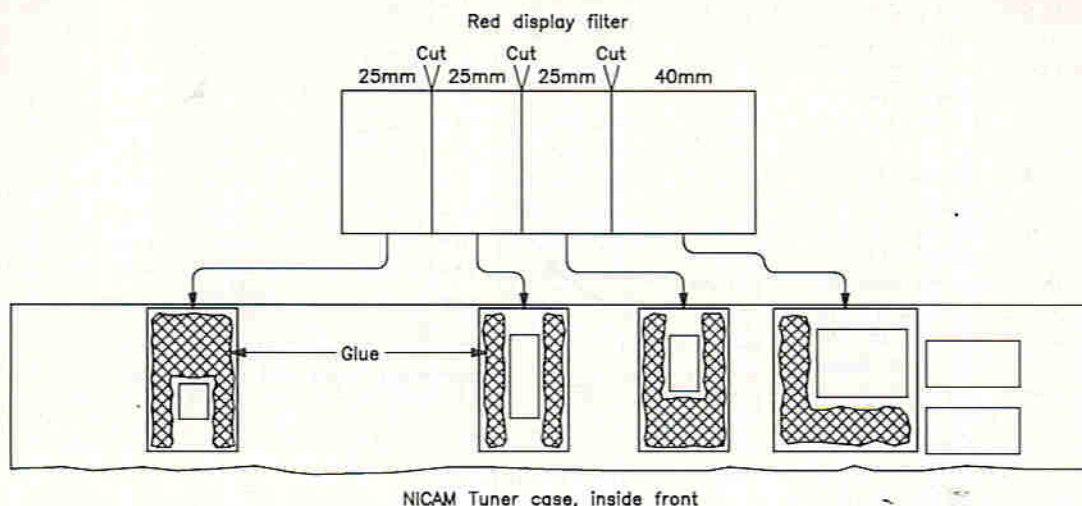

Figure 12. Fitting the Red Display Filter.
- 2) Follow the instructions given in Figure 12, and cut the red display filter into four pieces.
- 3) With a good quality glue (impact adhesive) attach them to the inside front of the case at the positions shown in Figure 12.